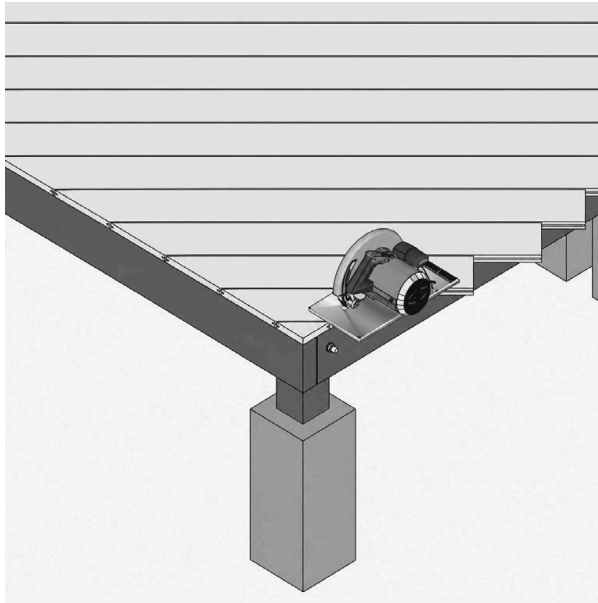

FIG. 13 – DECK-BOARD OVERHANG TRIMMED WITH A CIRCULAR SAW
- 03 Once all boards have been fixed in place, trim the deck-board overhang with a circular saw (fig. 13). Complete the deck with finishing as per the fascia, corner-trim or edge-board sections.